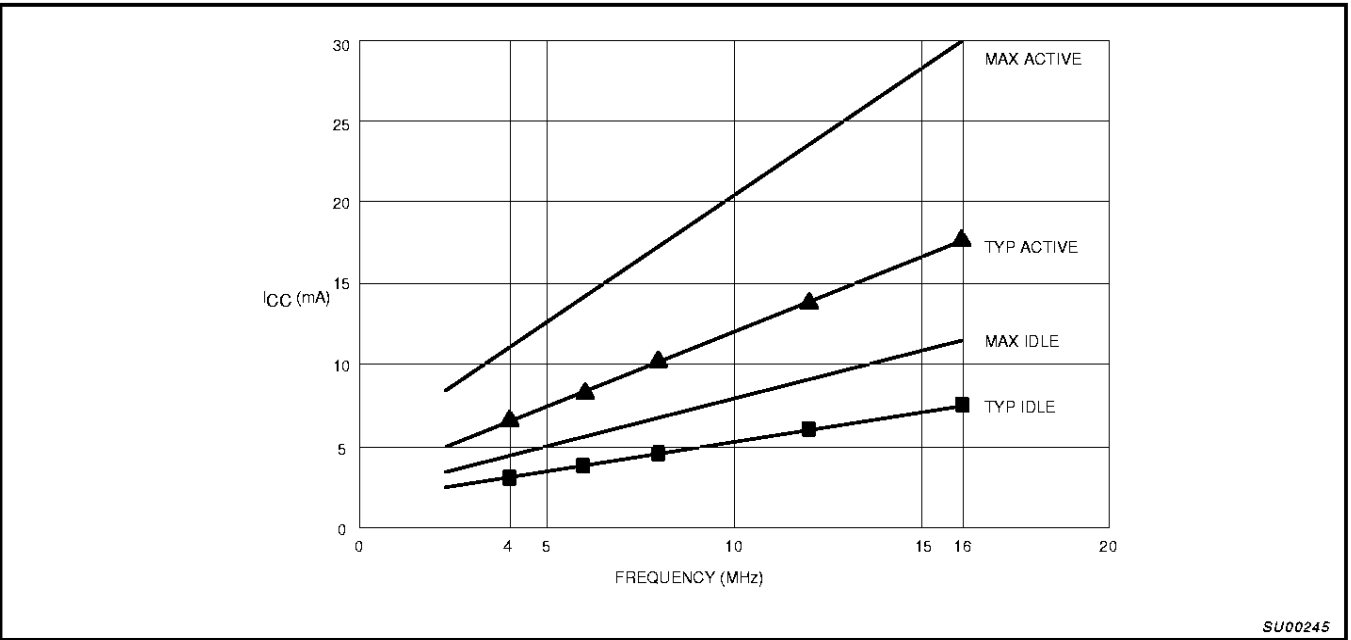

Figure 29. I_{CC} vs. FREQ
5. I_{CCMAX} at other frequencies can be determined from Figure 29.